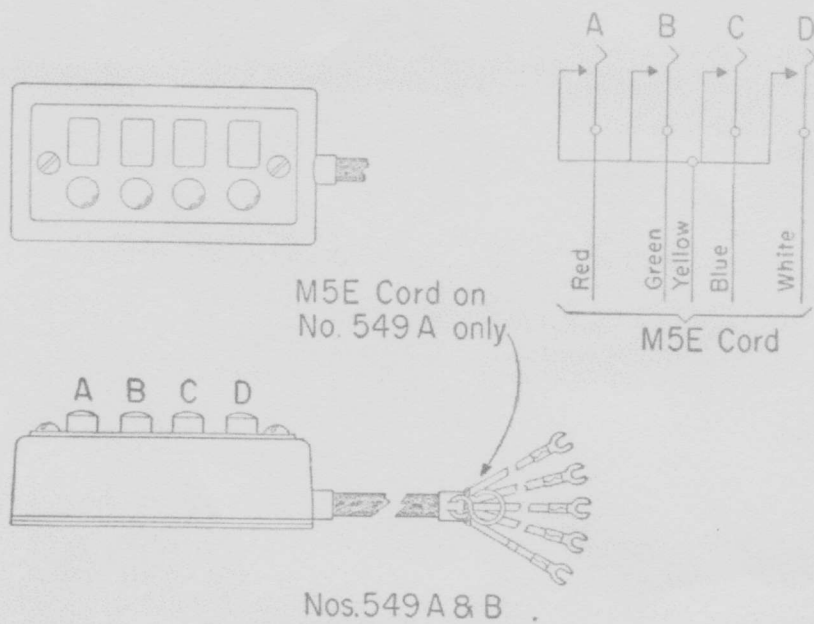

Fig. 1
3.01 549-type keys equipped with cords are generally placed loose on a desk or table top and are not fastened unless the subscriber specifically requests that they be fastened. The cord is terminated on a suitable connecting block in the knee well of the desk or under the table top where the excess length of cord, if any, is stored. Attach any excess cord length with inside wiring cable clamps used with screws or inside wiring nails. Figs. 1 and 2 illustrate the four and eight button keys respectively and also show the connections of the M5E and D9B-9 cords when used with the keys.